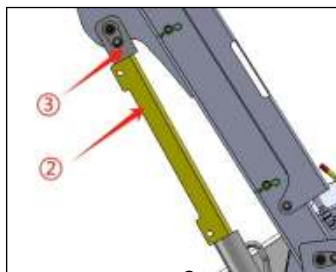

图2
Step 2: Lift the lifting arm to the highest position and install the safety brace on the lifting cylinder rod ③. (As shown in Figure 2)